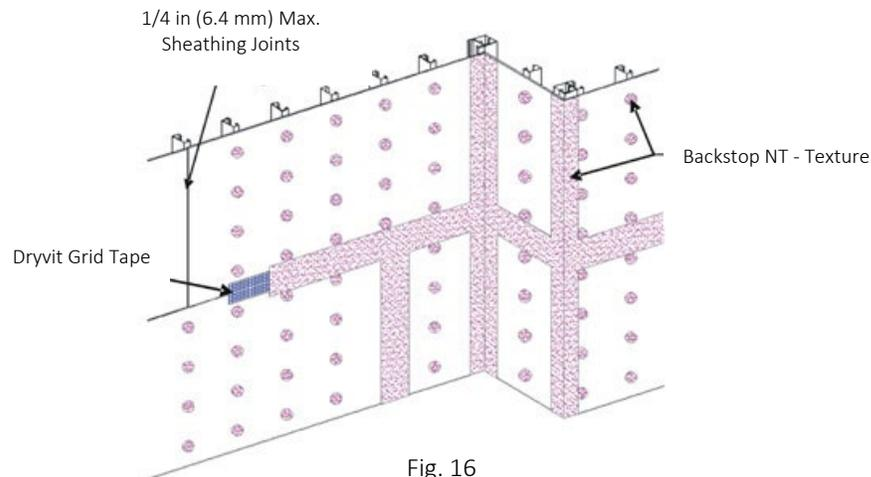

Fig. 16
- 1) Apply Dryvit Grid Tape as described in Section VI.F.1 above. Mix the Backstop NT - Texture material as described in Section III.B.2. Using a stainless steel trowel or spatula, apply a layer of Backstop NT - Texture over the Dryvit Grid Tape and spot all fastener heads – Figure 16.